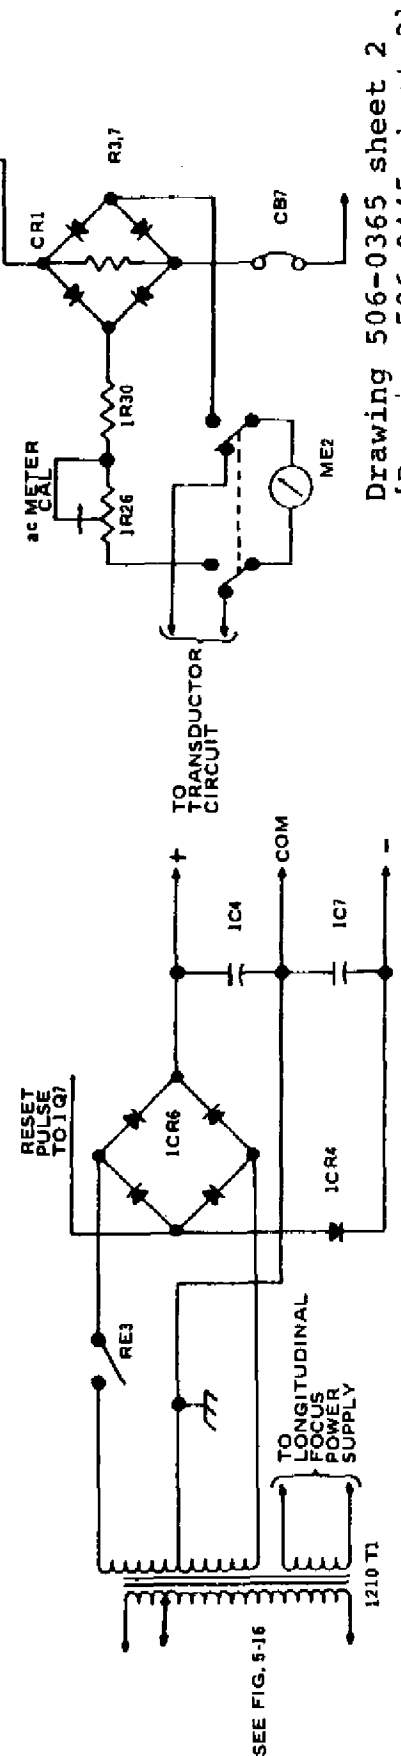

Figure 5-9. CV-8 A and B electron gun control circuit
5.3.3 Emission Control (Figure 5-9)